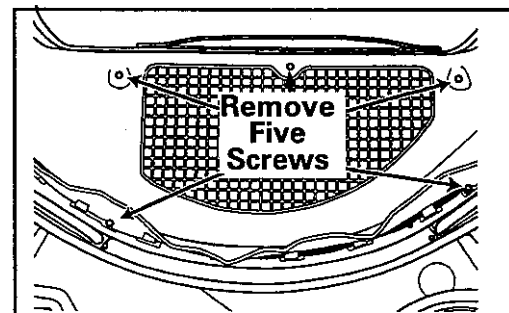

Figure 10-2
3. Remove the four 1/4" hex head screws and the one cross recess countersunk screw securing the outlet duct to the tumbler front. **Note:** *Two of the hex head screws are hidden under the felt seal. Pull the outlet duct free from the tumbler front, (*Figure 10-2*).*